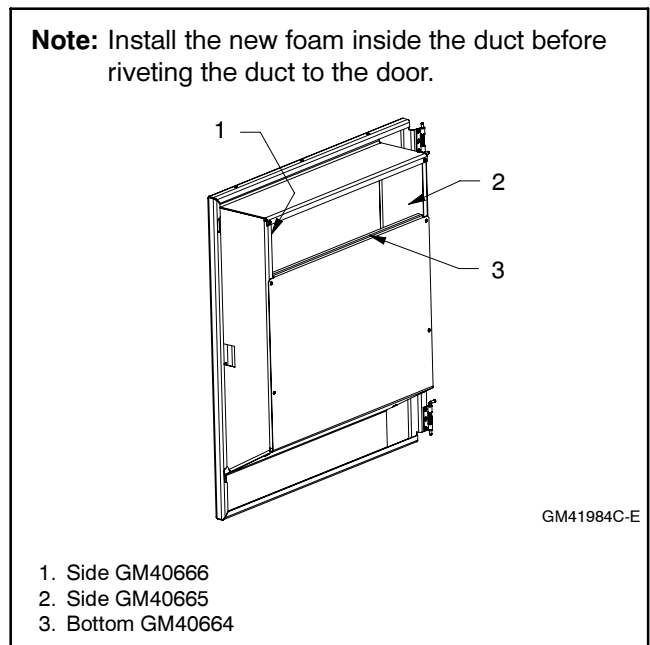

Figure 4 Foam Installation (inside the duct)
9. Install the new foam (GM40664, GM40665, and GM40666) on the inside of the duct before riveting the duct to the door. See Figure 4.